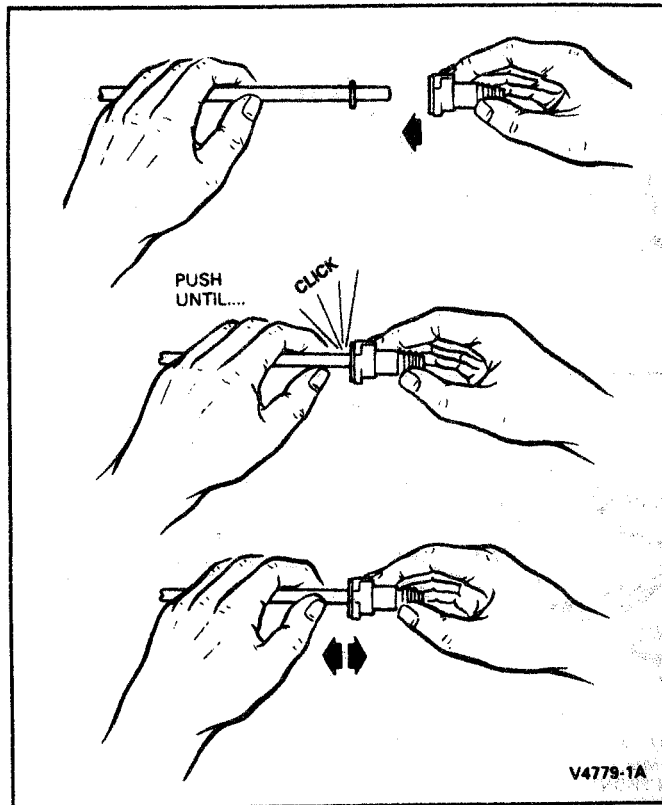

FIG. 7 Connecting "Push Connect" Fittings
3. To reinstall the fitting onto the tube, align the fitting and tube axially and push the fitting onto the tube end (Fig. 7). When the fitting is engaged, a definite click will be heard. Pull on fitting to ensure it is fully engaged.